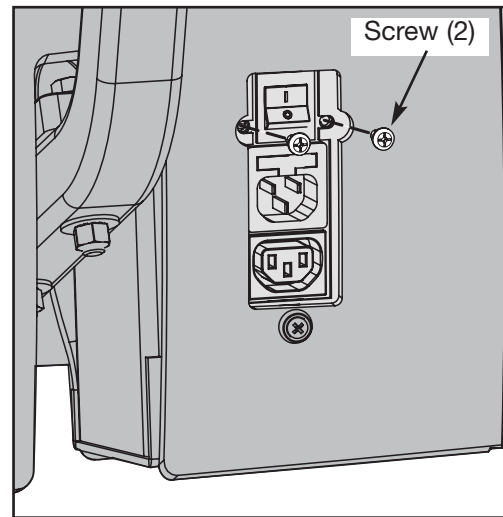

Figure 18
- A. Using a Phillips head screwdriver, remove the two screws on each side of the power switch. See Figure 18.
**A.** Place the new power switch assembly into position. See Figure 18.
**B.** Using a Phillips head screwdriver, attach the two screws removed during step 3A into the power switch. See Figure 18.
**B.** Turn the main power switch to the on (I) position.